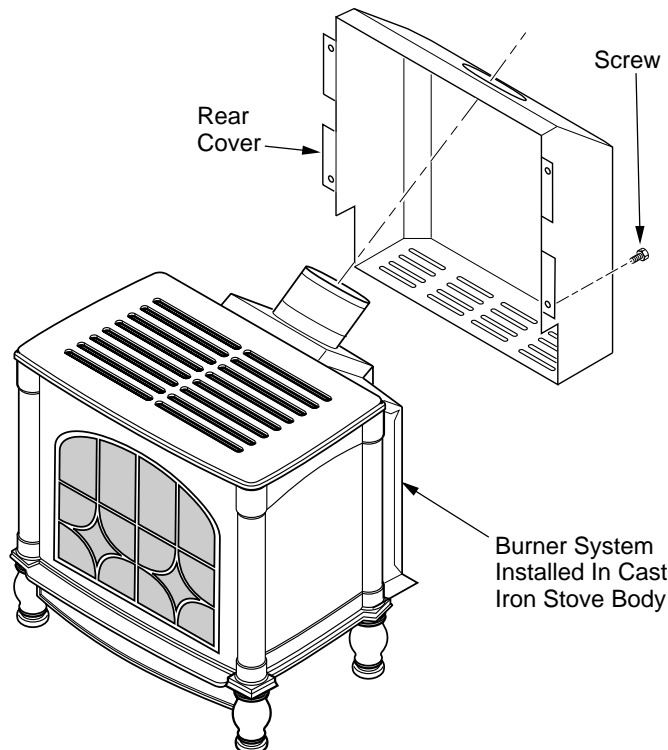

Figure 17 - Installing Rear Cover
2. Using screws provided, attach rear cover to back of stove body. See Figure 17.